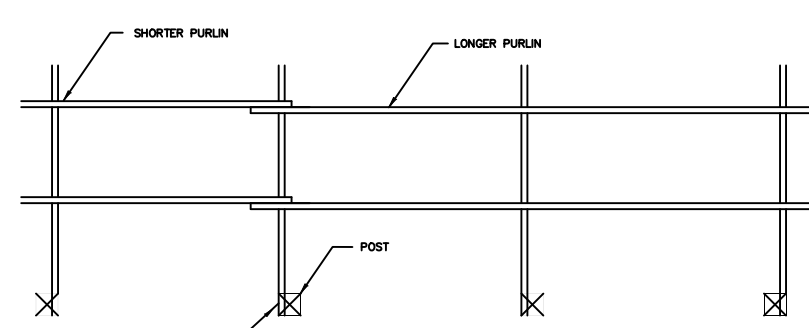

Figure 203-4
2. On Midwestern and Town & County Buildings, Stagger the notched side of the post down the length of the building to match the length of the purlins. See Figure 203-4.